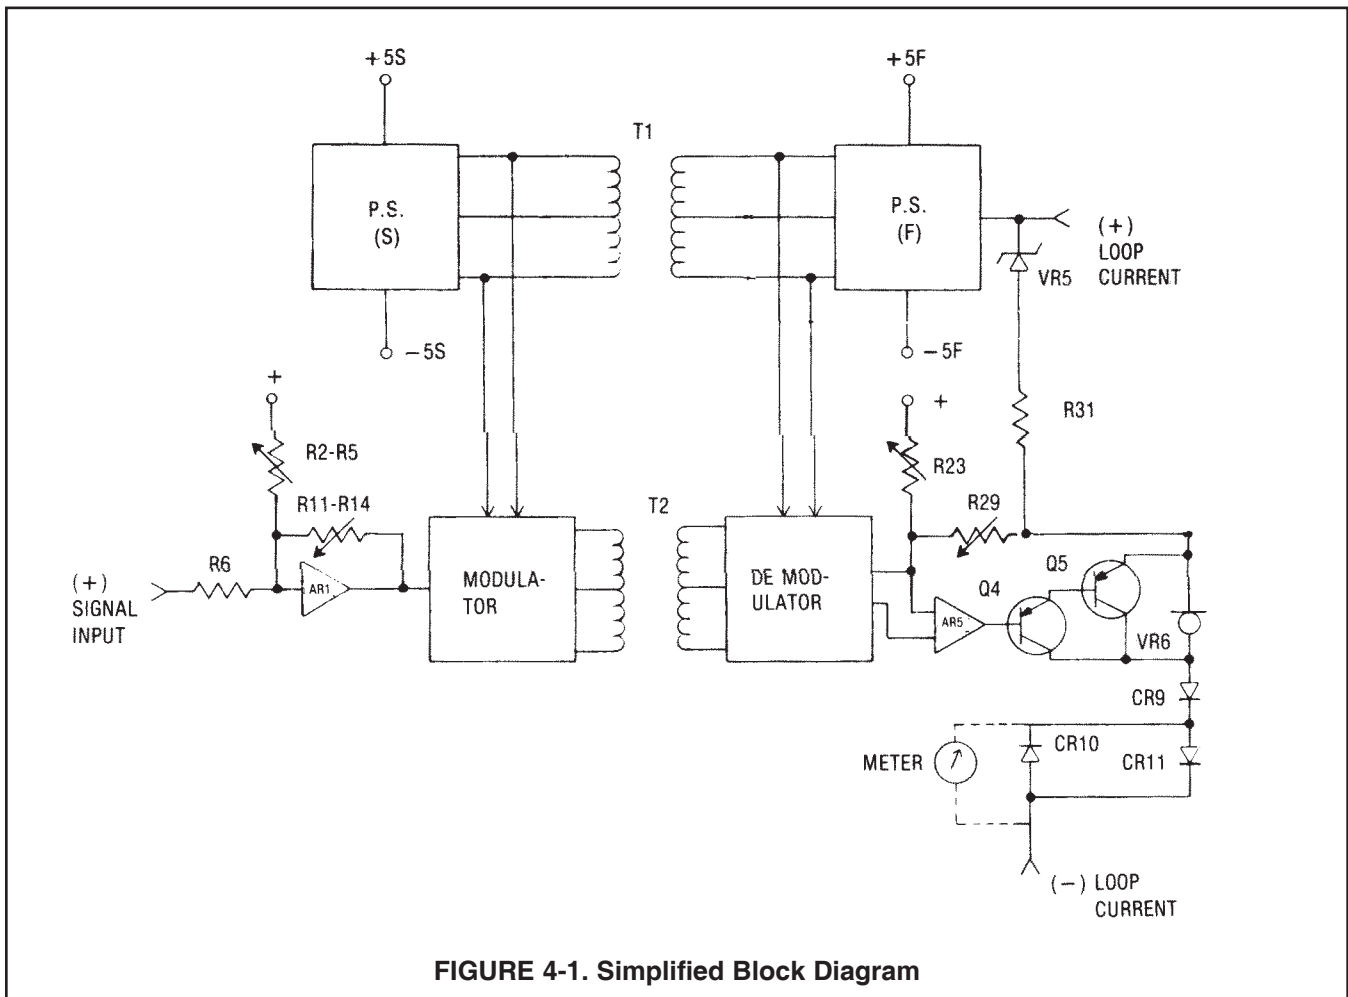

FIGURE 4-1. Simplified Block Diagram
4.1 FUNCTION DESCRIPTION (see Figure 4-1). The Model 1181 operates from the power it receives from the loop current. At 4 milliamps, with 5 volt drop in the Model 1181, available power to operate the Model 1181 is 20 milliwatts typical (40 milliwatts maximum). The power supply (AR3) is a free CMOS multivibrator which drives the transformer (T1) at a frequency of 20 kHz. A transformer (T1) generates the ± 5 volts power on the loop side (F) and on the sensor side (S). T1 also provides proper polarity by phase modulating the modulator and demodulator.